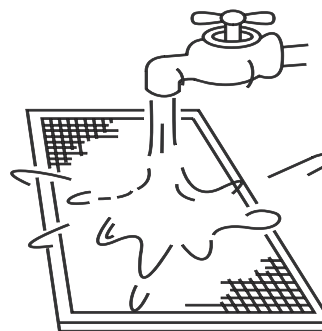

Fig. 4-7
- ② Take out the air-in grill.
- ③ Dismantle the air filter
- ④ Clean the air filter (Vacuum cleaner or pure water may be used to clean the air filter. If the dust accumulation is too heavy , please use soft brush and mild detergent to clean it and dry out in cool place).
- ⑤ The air-in side should face down when using water. (See Fig. 4-7)